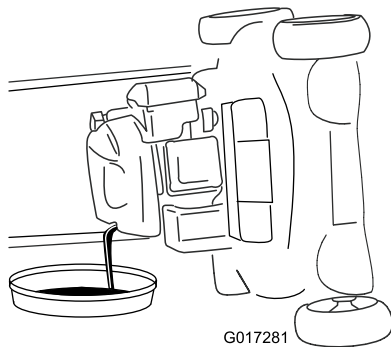

**Figure 30**
3. Remove the dipstick by rotating the cap counterclockwise and pulling it out (Figure 30).
10. Read the oil level on the dipstick (Figure 30).